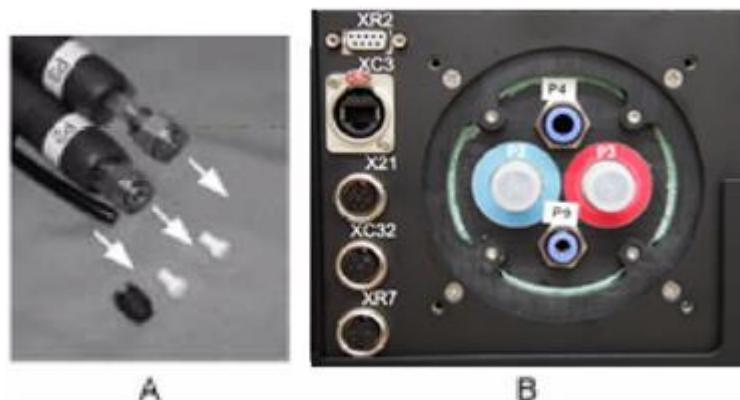

Fig 4.8 Removing the protection caps
1. Remove the protection caps from the tubes. See A in Fig 4.8
2. Remove the protection caps from the tubes. See B in Fig 4.8